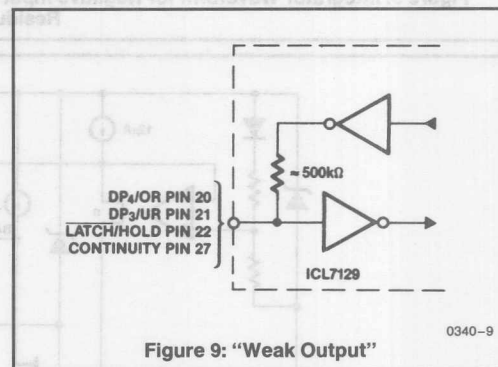

Figure 9: "Weak Output"
Four pins of the ICL7129 can be used as either inputs or outputs. The specific pin numbers and functions are described in the Pin Description table (Table 1). If the output function of the pin is not desired in an application it can easily be overridden by connecting the pin to V^+ (HI) or DGND (LO). This connection will not damage the device because the output impedance of these pins is quite high. A simplified schematic of these input/output pins is shown in Figure 9. Since there is approximately 500k Ω in series with the output driver, the pin (when used as an output) can only drive very light loads such as 4000 series, 74CXX type CMOS logic, or other high input impedance devices. The output drive capability of these four pins is limited to 3 μ A, nominally, and the input switching threshold is typically DGND + 2V.